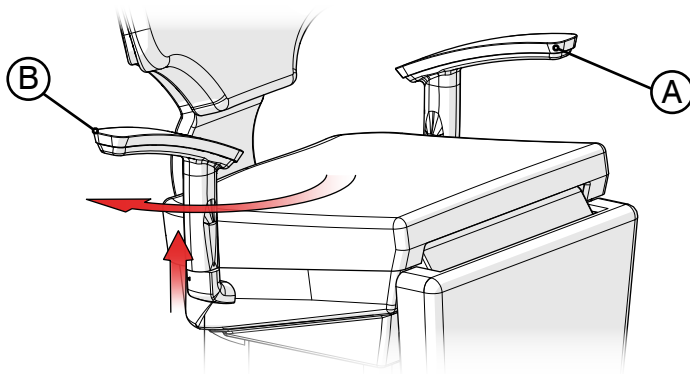

Fig. 9
To rotate the armrest (B), it must be pulled upwards (kept in its housing) until the rotation mechanism is released, allowing it to be turned until reaching the track limit where it stops. To return the armrest to its initial position, simply lift it and turn it inside until it locks automatically (Fig. 9).